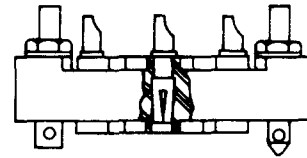

Fig. 15—KS-20144, L1 Through L14 Connector
2.07 KS-20144, L1 Through L14: The KS-20144-type (Fig. 15) are polarized, multicontact, panel-mounted, female connectors that are equipped with gold-plated, socket contacts. The wiring end of the contact is arranged for solder connection. The L14 is equipped with a hood assembly.